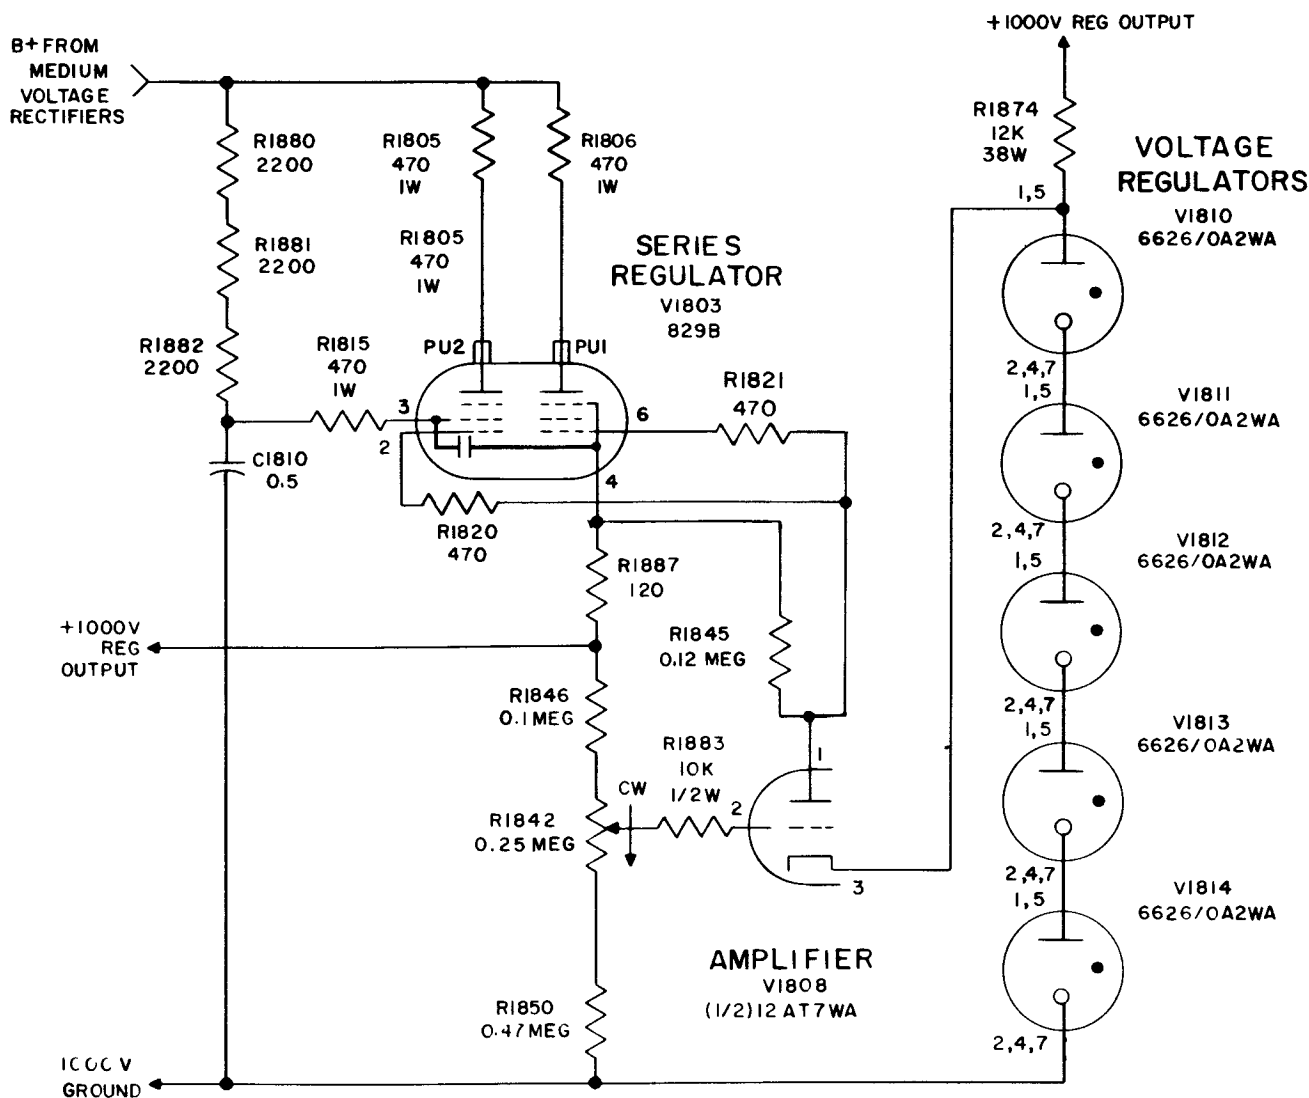

Figure 4-40. Medium Voltage Power Supply PP-1765/URN, Voltage Regulator, Simplified Schematic Diagram
(d) MEDIUM VOLTAGE POWER SUPPLY PP-1765/URN. —The medium voltage power supply unit (figure 6-25) contains one full-wave rectifier employing two tubes 836. The rectifier plate transformer T1801 primary is connected to the incoming 120-volt, single-phase power by the contactor K1804, operated by the control circuit. A capacitor input filter is connected in the unregulated rectifier output circuit. A series-type regulator (figure 4-40), is connected in the filter output circuit to provide the 1000-volt output. The 1000-volt series-type regulator uses five pentodes 829B in parallel. Capacitor filter C1802 is connected in the 1000-volt output circuit of the voltage regulator. A positive 700 volts is obtained by voltage dropping across series resistors
The 1000-volt output is applied across potentiometer R1874 and tubes V1810 through V1814 in series. The grid bias for the series regulators is obtained in the following manner (figure 4-40): The cathode (3)